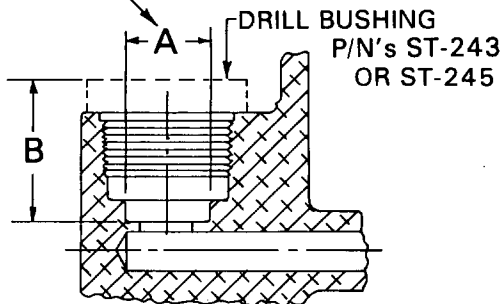

Figure 1. Section Through Crankcase Showing Recess for Installing Valve Seat
2. Check the diameter of the recess (Diameter A in Figure 1) with a small hole gage and compare it with the diameters shown in the following chart. If the diameter of the recess is found to be .814 or less and the surface is smooth, no additional preparation is required. Proceed to install a standard valve seat insert as described in Steps 3 and 4. If the diameter of the recess is larger than .814 or rough, or if repairing a cast in valve seat, it will be necessary to either clean up the existing recess or ream a recess to accept an oversize valve seat. Install the applicable drill bushing, either P/N ST-243 or P/N ST-245 and assemble a stop collar or other limiting device on the reamer and set it to 1.015 -1.025 inch (Dimension B in Figure 1). Proceed to ream the recess to the specified dimension. After reaming remove the drill bushing and clean all metal chips from the recess.